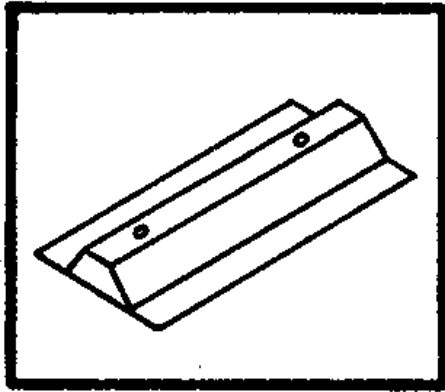

Fig. 23 - Block Length
73. Blocks can be made with hollow cores running the whole length of the block, but this takes a little more time. The proper molds for these blocks have to be made (see Fig. 23);